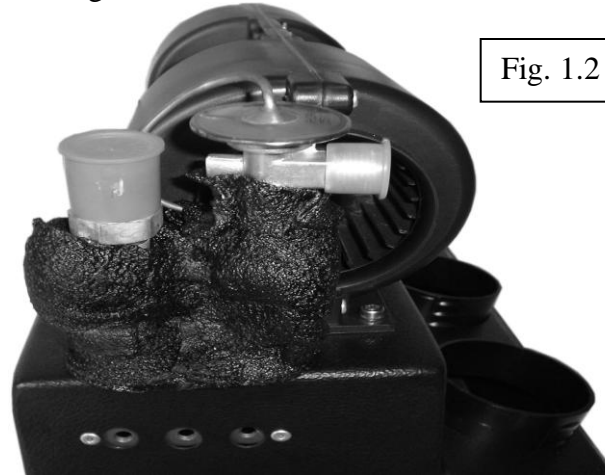

Fig. 1.2
- 4) The expansion valve will mount to the smaller fitting on the evaporator unit. If the valve is already attached disregard this step. We normally mount the expansion valve on the evaporator prior to shipping it. The simplest way to tell if the expansion valve is mounted is by looking at figure 1.1. If the evaporator fittings are perpendicular to each other the expansion valve is mounted. If you need to rotate the valve for hose purposes make sure to recover the valve with the black cork tape after re-positioning it. If the expansion valve is mounted the evaporator fittings will look similar to figure 1.2.